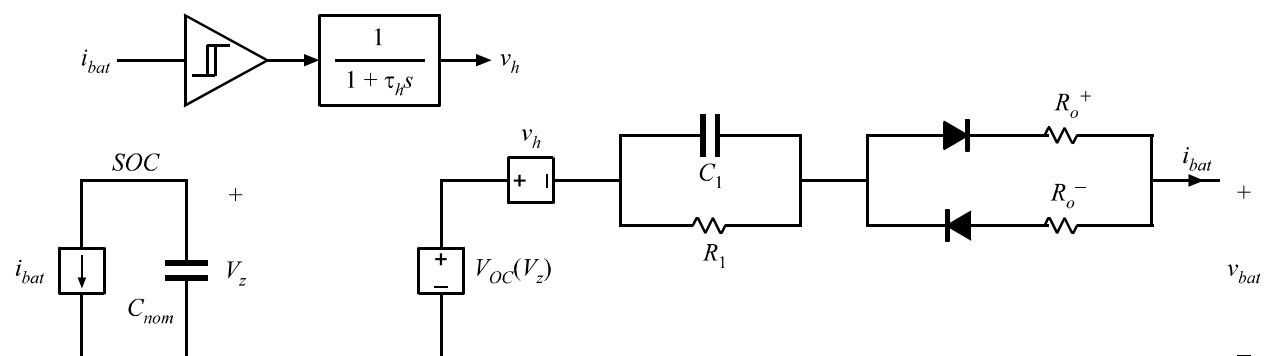

Figure 5: Equivalent circuit model of Lithium-ion battery cell
An equivalent circuit model of a single Lithium-ion battery cell is given in Fig. 5. This is Model D, as developed in class.
- Is the equivalent circuit model of Fig. 5 sufficiently accurate in modeling the behavior of the actual battery cell?
- Does the circuit of Fig. 5 model all known characteristics of battery operation? What effects are neglected, if any?
- What modifications could be made to the model of Fig. 5 to more accurately model the cell behaviors?